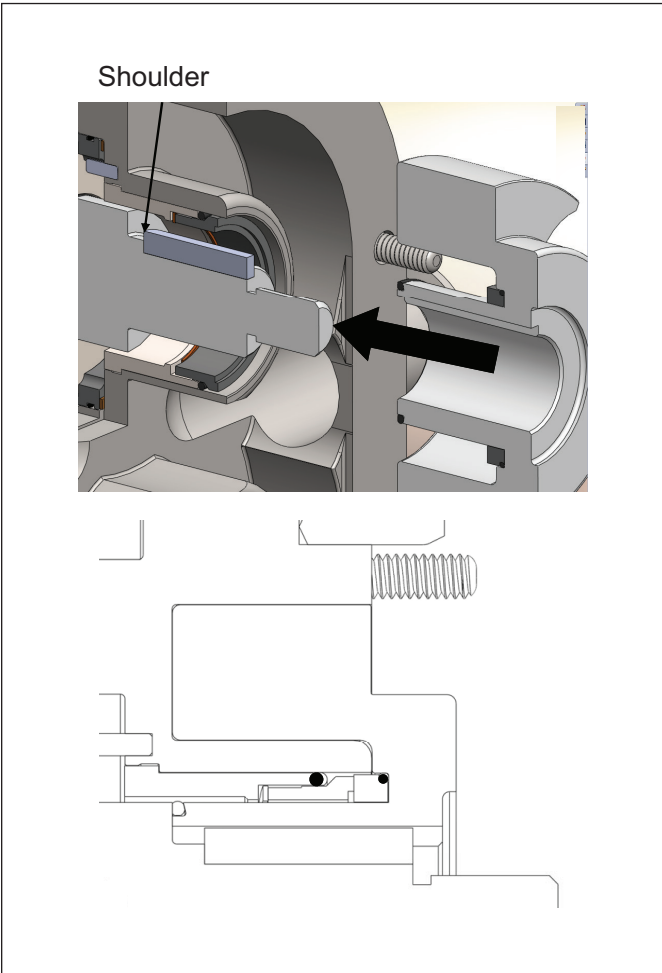

Figure 31. Rotor Assembly
- 5. Insert a rotor key in the keyway on the shaft. Slide the rotors onto the shafts until they seat against the shaft shoulder (Figure 31).